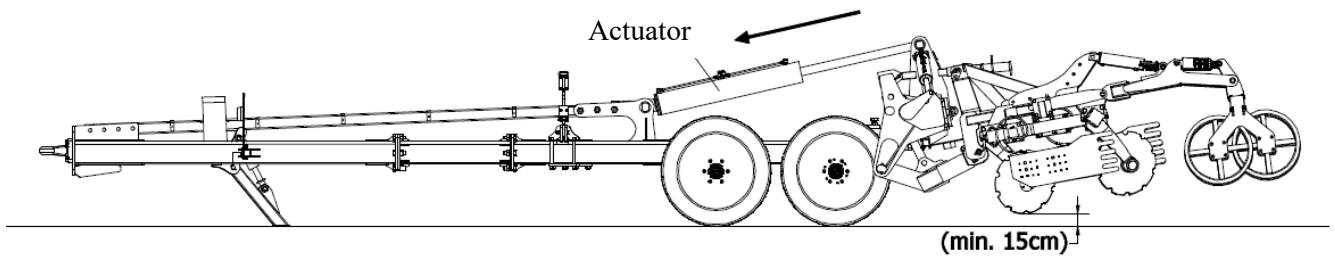

Figure 43 The correct way to lift the machine when carrying out a turning manoeuvre.
**NOTE!** Before turning with the machine unfolded, retract the chassis actuator (approx. 100mm) so as to raise the front row of discs by at least 15cm in order to avoid undesirable hitting of the machine on the ground (fig. 43). After the manoeuvre, lower the machine back to the operating position.